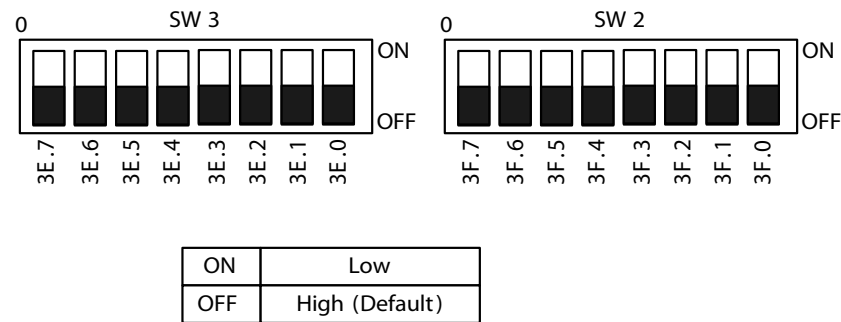

Figure 139. DIP Switch for the Smart Option
Figure 139 depicts the DIP switch for the Smart Option.
► **Note:** In Figure 139, particularly for the EVA chip, the Smart Option is determined by the DIP switch, not the software. The reserved bits should remain at their default values; i.e., High.